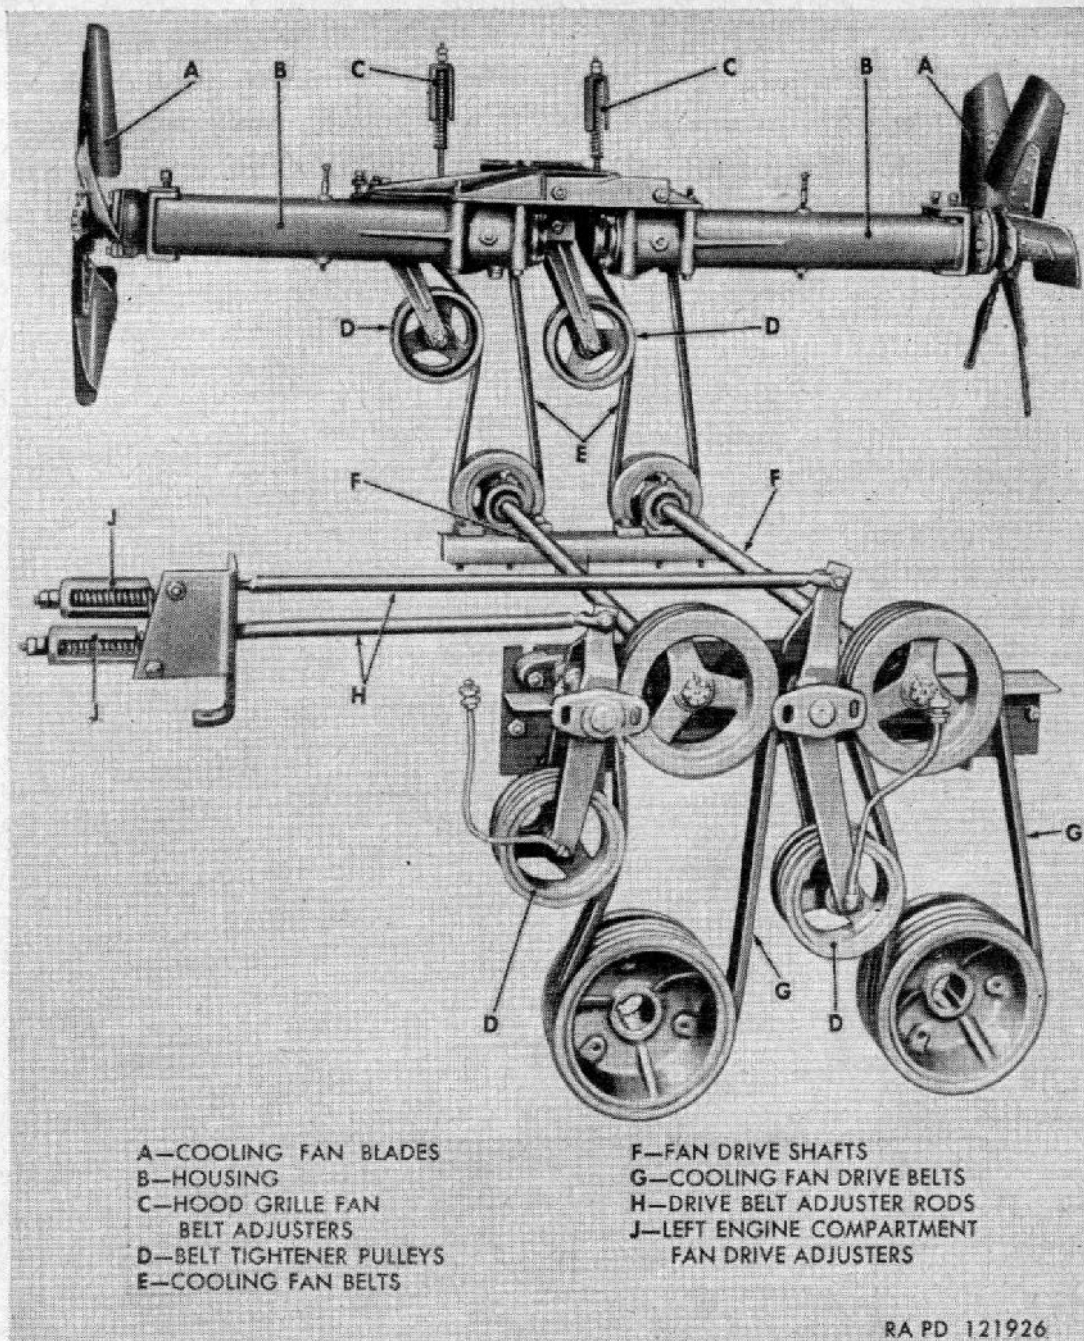
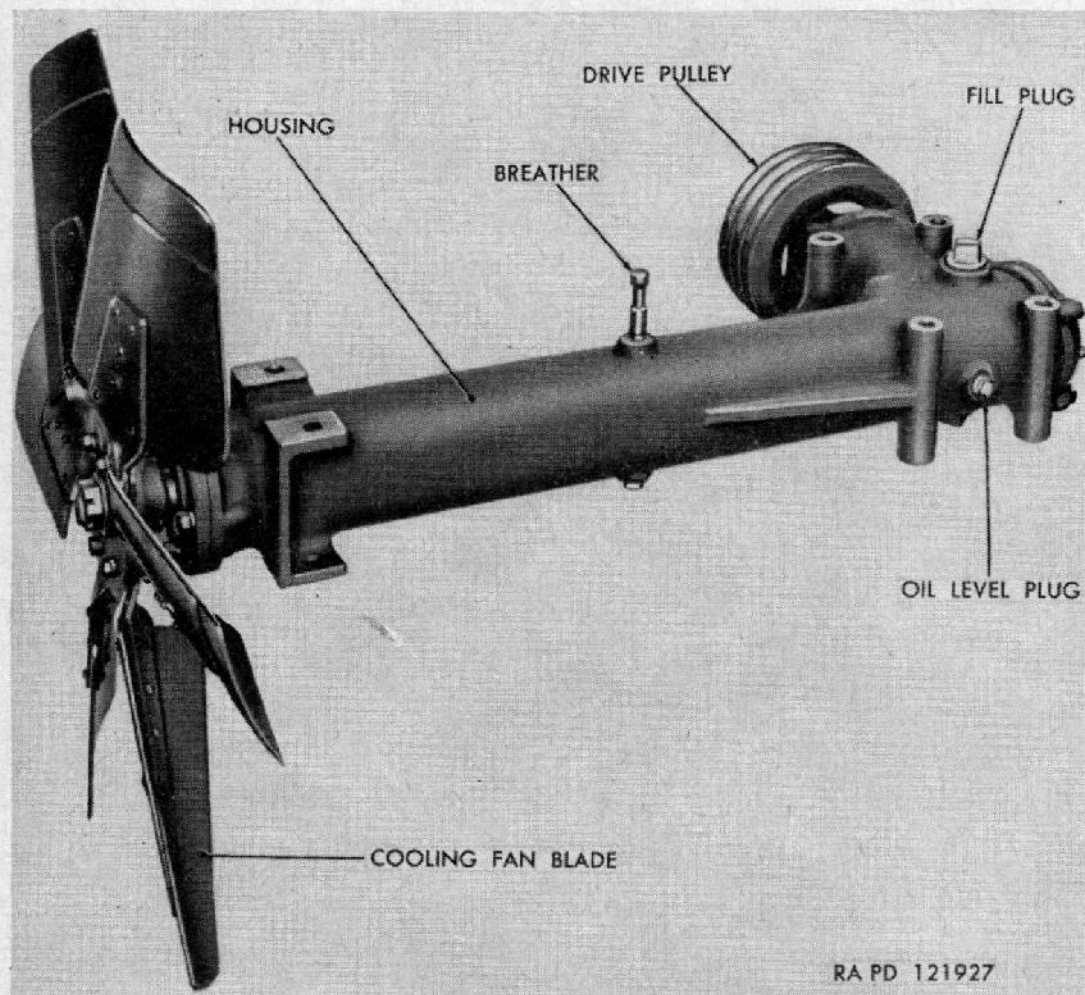

Figure 79. Cooling fan arrangement.
Figure 80. Fan and fan drive assembly.
d. Cooling Fans and Fan Drives. Two six blade cooling fans are used to draw air through the radiators to cool the water, torque converter, and transmission oil as they are circulated through the radiators. Two fan drive shafts between the two engines are driven by V-belts from pulleys on the engine crankshaft (fig. 79). More V-belts connect the pulleys on the front end of the drive shafts with pulleys on the fan drives. Each fan drive assembly consists of a drive pulley and
bevel gears enclosed in an L-shaped housing (fig. 80). Belt adjusters are provided for adjustment for proper tension on each set of belts (fig. 79).
a. Removal. Open engine top grilles (fig. 3). Using a screw driver, turn locking screws, holding air deflectors to supports, one-half turn counterclockwise and remove the two air deflectors from above the fan drive to be removed. Remove nut plain washer, and lock washer at end of housing holding cooling fan blade to shaft (fig. 80). Remove the cooling fan blade from inside of shroud. Relieve tension on the fan drive belts and remove belts from drive pulley (par. 99). Remove six bolts and lock washers attaching fan drive housing to its supports. The fan drive housing mounting holes are shown in figure 80. Lift out the fan drive assembly.
b. Installation. Place fan drive housing assembly in place and attach the assembly to supports with six bolts and lock washers. Position cooling fan blade on shaft and install plain washer, lock washer, and nut on shaft (fig. 80). Install fan drive belts on drive pulley and adjust drive belts (par. 99). Position air deflectors on supports and turn locking screw clockwise one-half turn to secure deflectors to supports. Close engine top grilles.